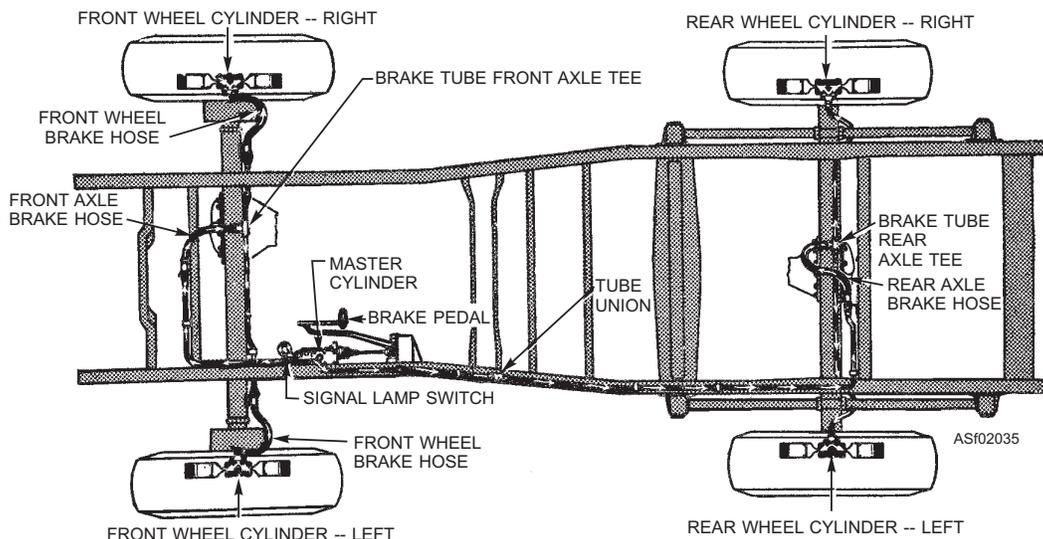

Figure 2-35.—Typical hydraulic brake system.
**COMPONENTS AND OPERATION.**—Figure 2-35 shows a typical arrangement of a hydraulic brake system. The system consists of a master cylinder connected by tubing and flexible hose to the wheel cylinders. The master cylinder serves as a fluid reservoir, the system pump, and the control valve. The